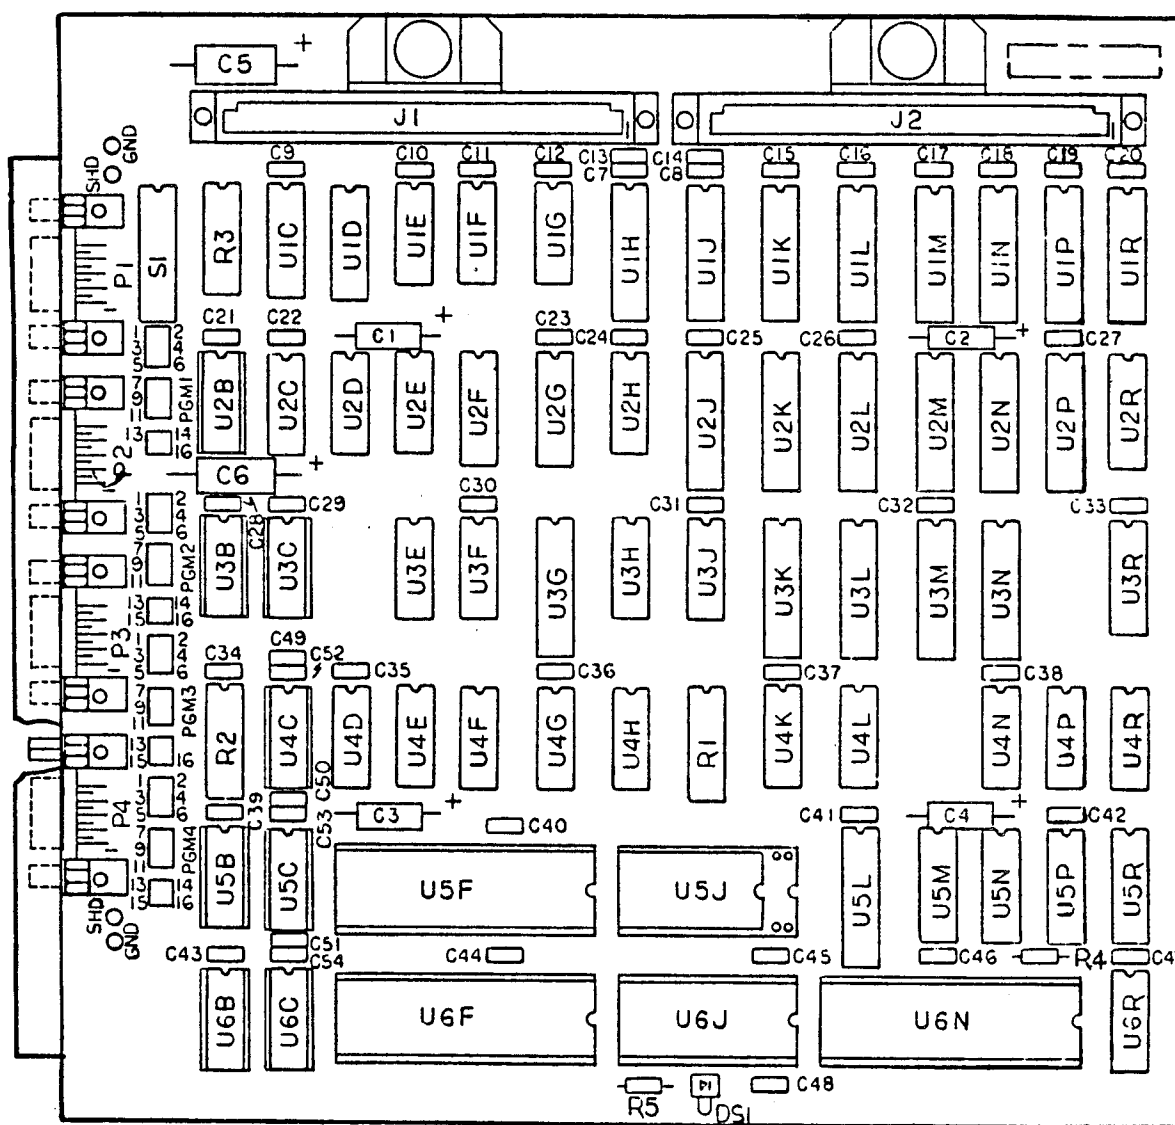

Figure 1-2. Location of Major Components on PCBA
The 4-Way PCBA is designed for horizontal mounting in the 2000/3000 housing. All components are mounted on one side of the board and are hard wired and soldered except for the microprocessor, controller, controller firmware, input RAM and driver chips, which are socketed. Connections to the DCE equipment being serviced are made via four metal-faced 9-pin D-type female connectors on one side of the PCBA. In addition to the electronic and electric components, the PCBA also contains a 10-position DIP switch for establishing bus contention priorities and a green LED for indicating Initialization/PASS status (ON) or FAIL status (OFF). See Figure 1-2.